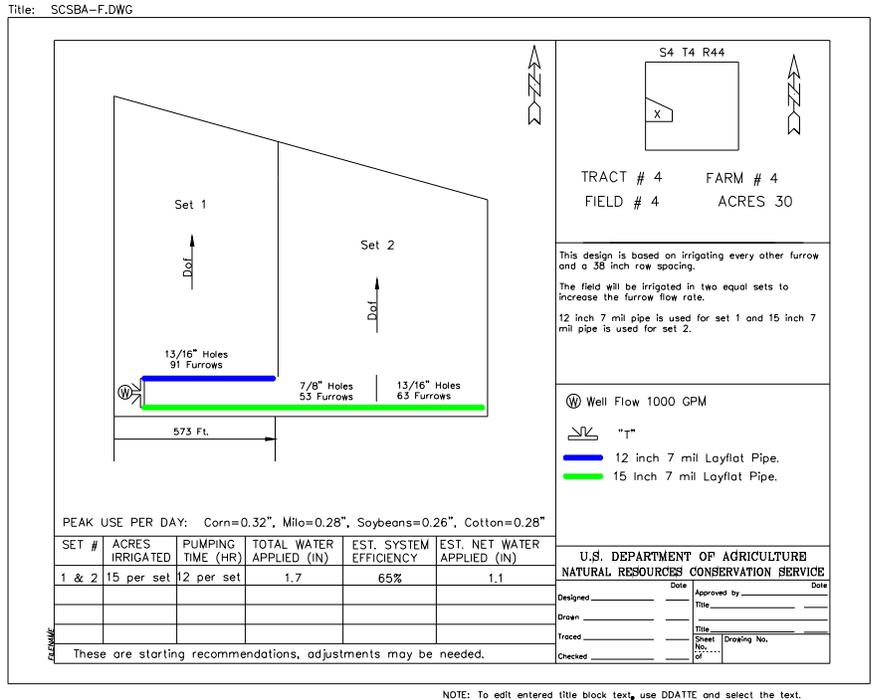

Figure 4.11 – Example 4 Plan View
**STEP 8:** A plan view of any system must clearly describe the size and mil thickness of layflat pipe used in the design (fig. 4.11). Color has proven to be an effective label for layflat pipe. To avoid confusion between systems, the designer should use consistent labels for all plan views.